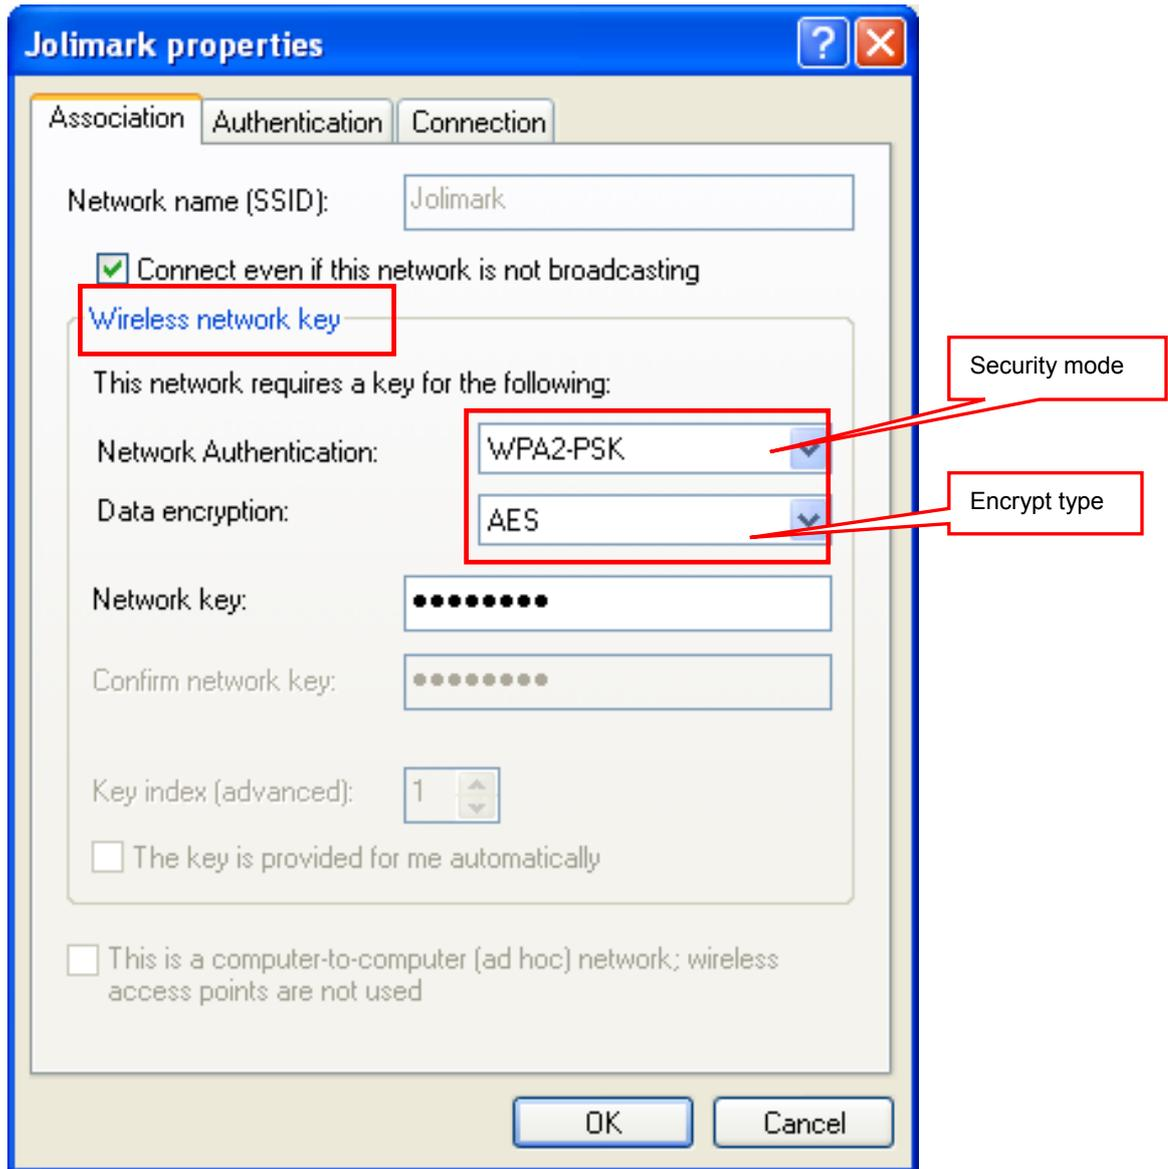

Figure 12
- ⑤ When the window of “Properties” pops up, find out the security mode and encrypt type in “Wireless network key” (as shown in Figure 12).